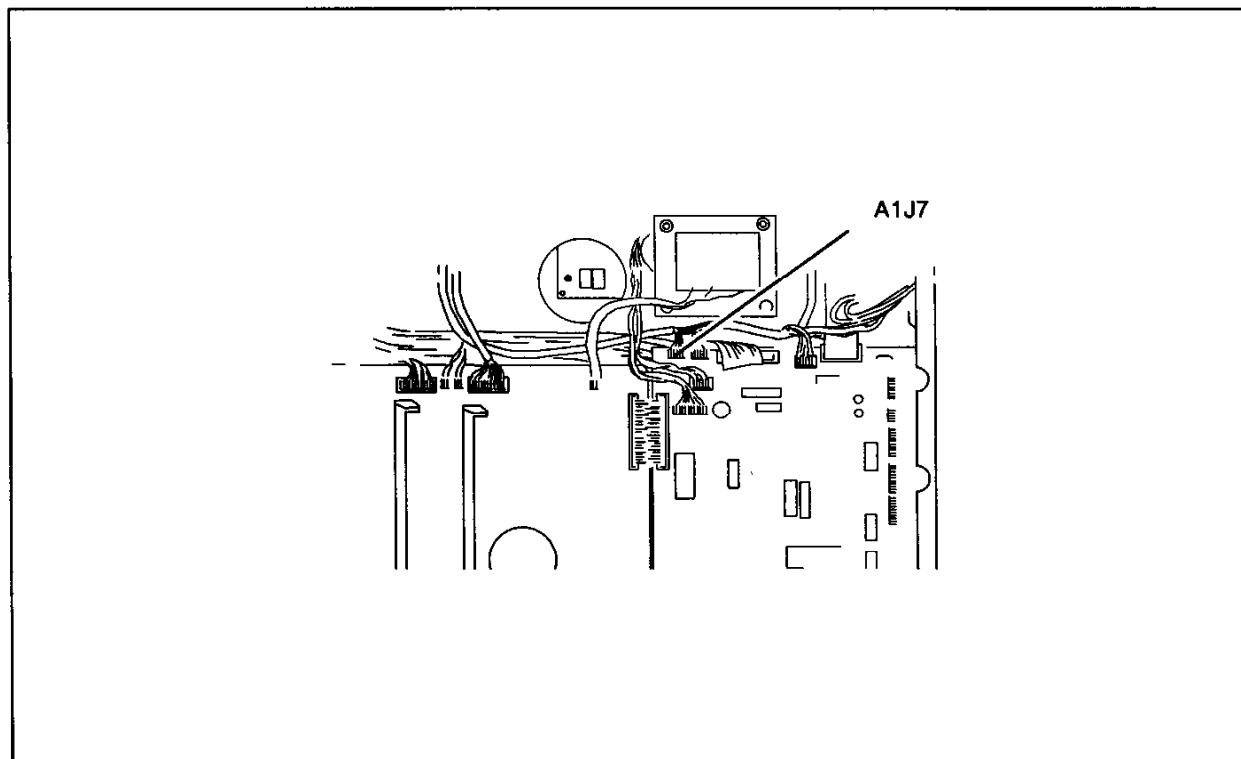

Figure 6-9. Carousel Motor Removal
- a. Turn the plotter line switch to OFF (O) and disconnect the ac power cord.
- c. Disconnect the motor connector on J7 of the Processor PCA (A1). See Figure 6-9.